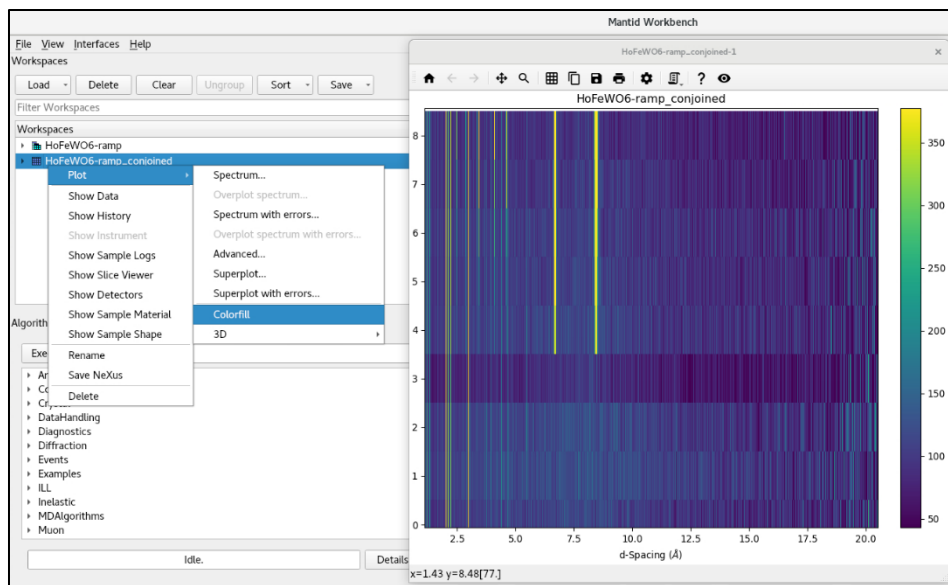

Figure 9. Colorfill plotting.
- 2.4.8. Right-click on the new workspace and select *Plot* → *Colorfill* to generate a colorfill plot (Figure 9).